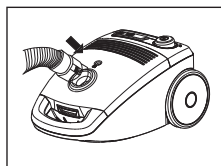
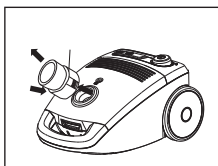

Fig. 1
Fig. 2
1. Check if there is the dust bag, motor filter and HEPA filter in the vacuum cleaner. Press both buttons at the end of the hose in the same time and insert the end of the hose into the opening on the front of the vacuum cleaner (fig. 1) until you hear a click. If you want to pull out the hose, press both buttons in the same time and pull out the hose (fig. 2).